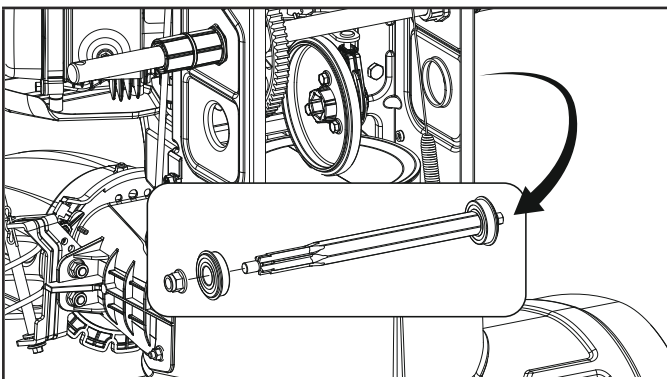

Figure 44
5. Tap the shaft end to dislodge the ball bearing from the right side of the frame. Slide out the hex shaft. Make sure all pieces shown are accounted for (Fig. 44).